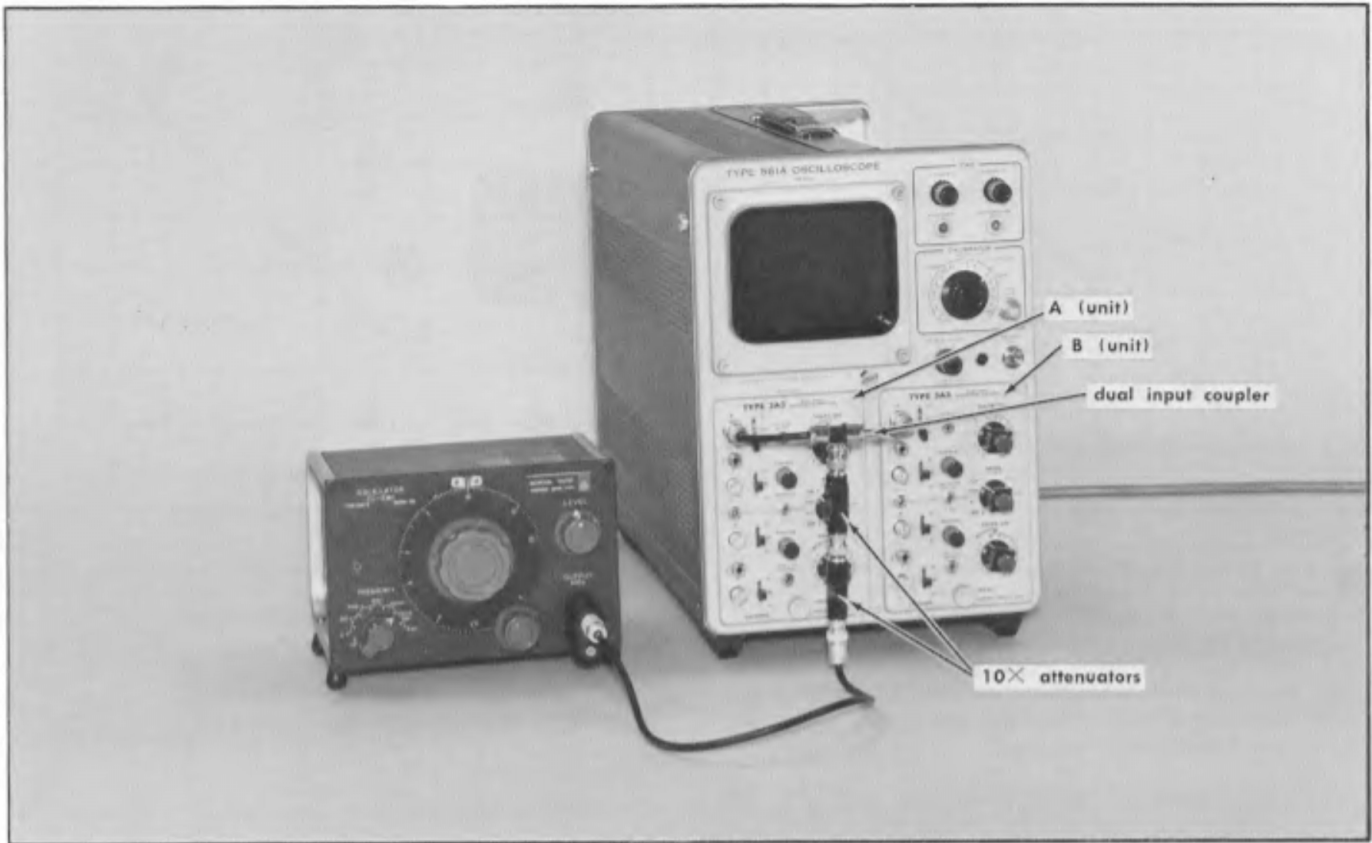

Fig. 2-14. Initial equipment setup for the phase adjustment procedure required when two Type 3A3 Plug-In Units are used for precise phase measurements.
a. The additional equipment required for the remainder of this procedure includes a sine-wave generator such as General Radio Type 1310A, two 10× attenuators, (Tektronix Part No. 011-0059-00) a 50 Ω termination (Tektronix Part No. 011-0049-00) and a BNC to Banana patch cord (Tektronix Part No. 012-0090-00). Fig. 2-14 shows the equipment